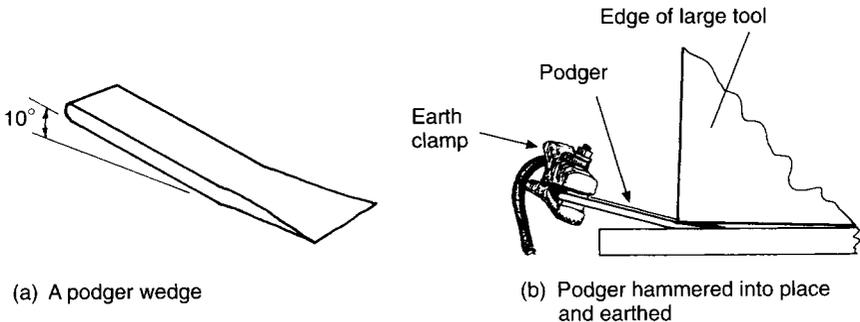

Fig. 6.37
- A 'podger' which is a shop-made earthing wedge, made to hammer under the bases of larger television sized tools that have no easy earthing points. The wedge is made from a piece of mild steel bar  $1'' \times \frac{1}{4}'' \times 6''$  (25 mm  $\times$  6 mm  $\times$  150 mm) long, flattened at one end; see Fig. 6.37.